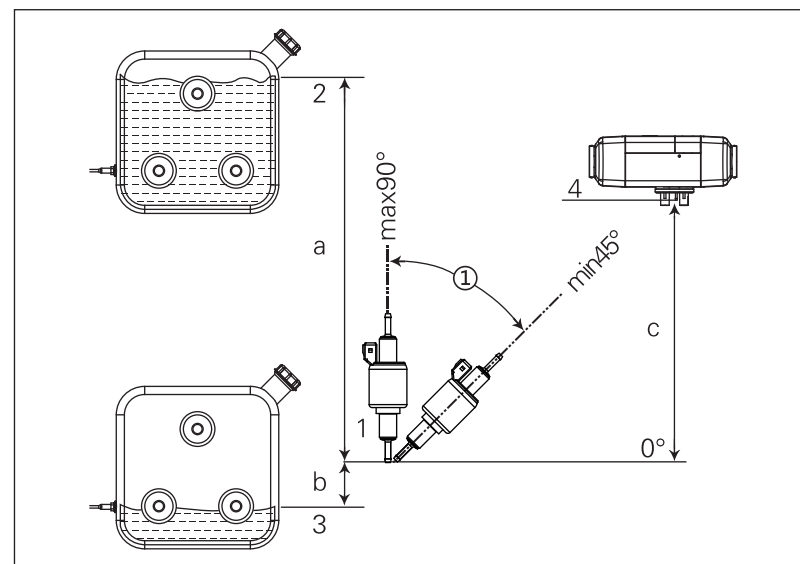

Fig. 19
4.4.1 - The fuel pump shall be fixed in protective rubber clamp to eliminate the transfer of vibrations. The outlet of the fuel pump shall tilt upwards. The tilt angle can be selected from the range of $45^\circ \sim 95^\circ$ (as shown in Fig. 19). When conditions permit, the fuel pipe between the fuel pump and the heater shall go up gradually.
4.4.2 - The elevation difference between the level of fuel and the fuel pump as well as the elevation difference between the fuel pump and the fuel inlet of the heater can produce pressure (or suction) in the fuel pipeline (See Fig. 19). Therefore, these dimensions shall conform to the requirements as follows: $a \leq 3\text{m}$; $b \leq 0.5\text{m}$; $c \leq 2\text{m}$